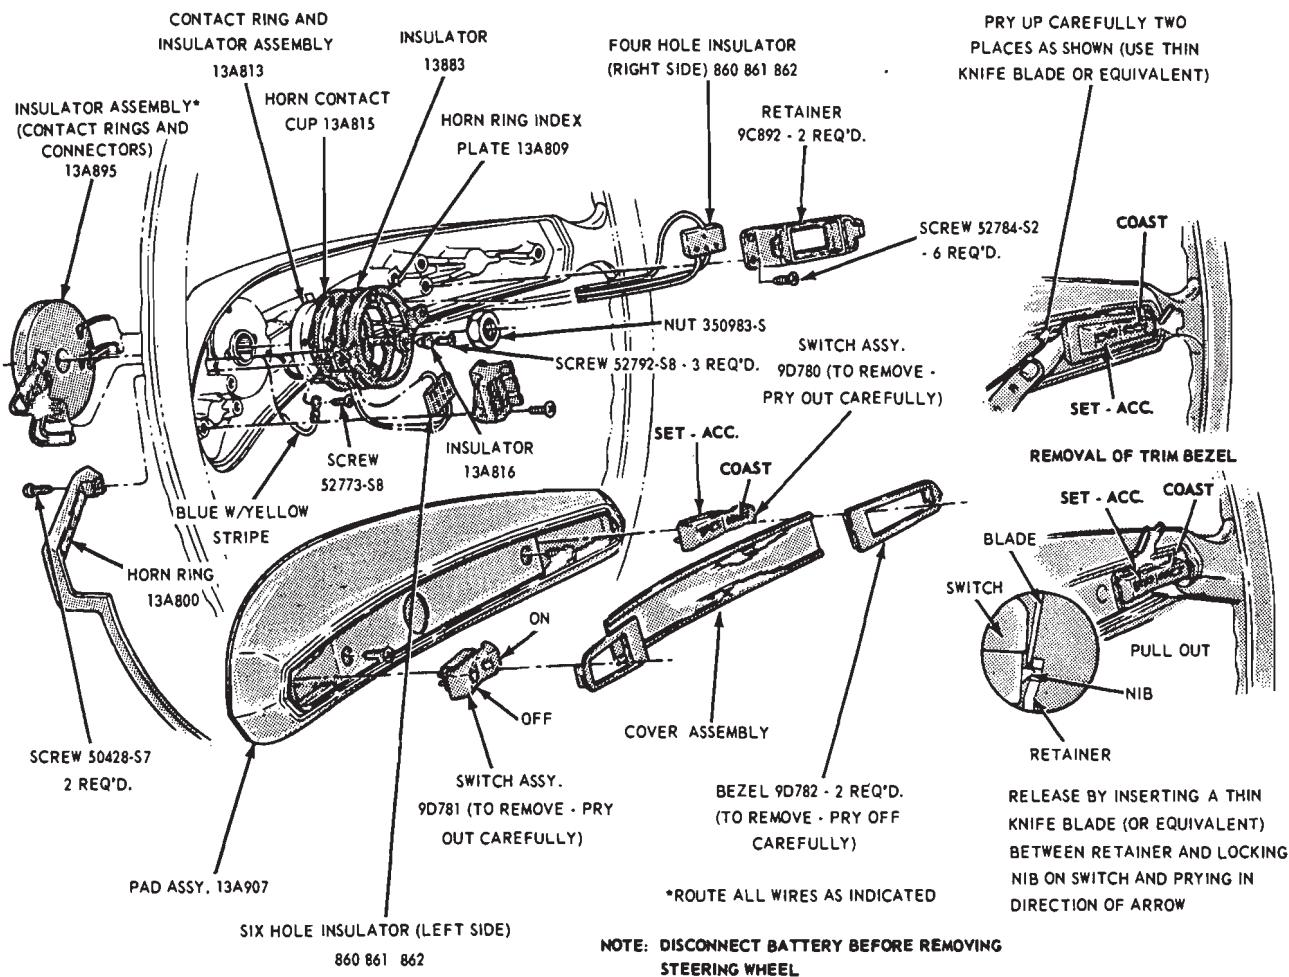

FIG. 2—Steering Wheel Mounted Controls—Ford, Mercury, Meteor and Thunderbird
1. Remove the switch bezels by carefully prying up with a thin knife blade (Fig. 2).
1. Remove the switch bezels from the steering wheel by carefully prying up with a thin knife blade (Fig. 2 or 3).
and install the attaching screws. Connect the wires to the speed control switches (Fig. 2 or 3).